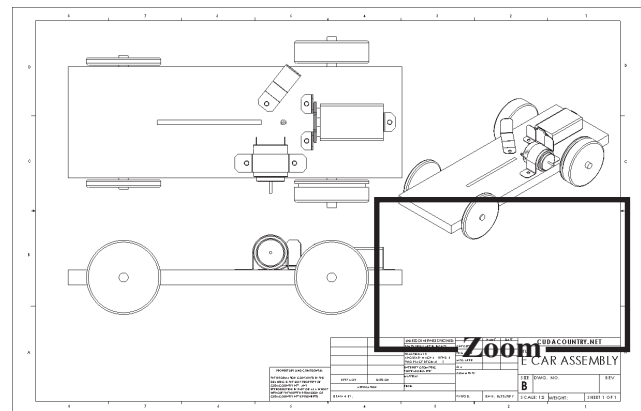

Fig. 6
Step 11. Grab any geometry of the Isometric view and move view to space right of Side and Top views, **Fig. 6**.
Step 1. Zoom in on **bottom right corner of the drawing**, **Fig. 6**. To zoom, place the cursor over the bottom right corner and spin the wheel on mouse back.